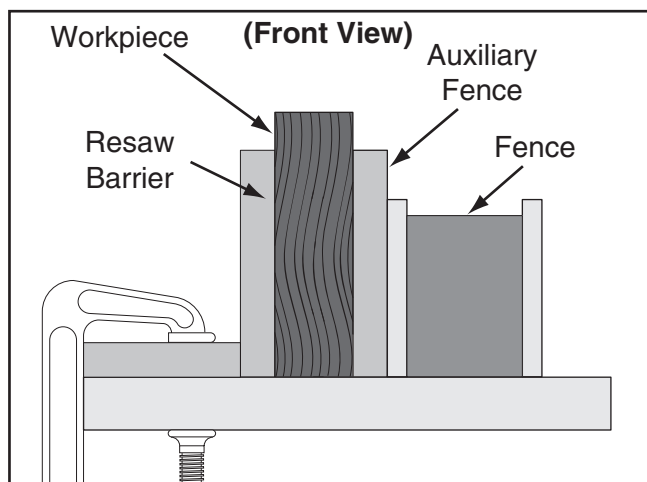

Figure 65. Ideal resaw workpiece setup.
5. Place the workpiece against the auxiliary fence and slide the resaw barrier against the workpiece, as shown in **Figure 65**. Now clamp the resaw barrier to the top of the table saw at both ends.